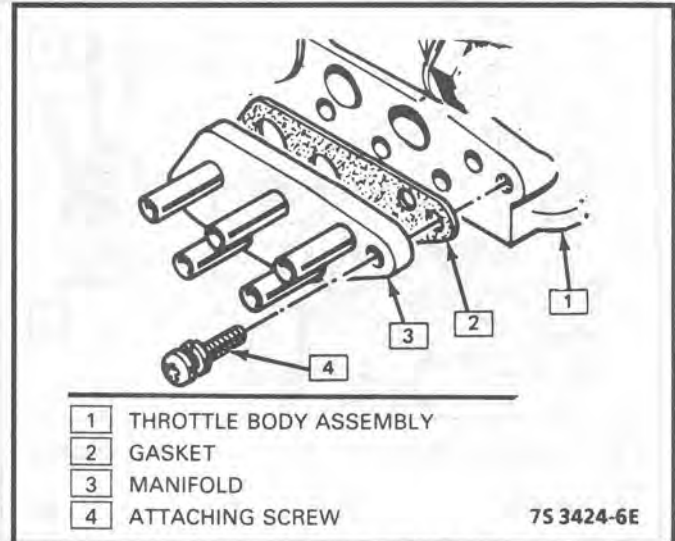

Figure C2-17 - Tube Module Assembly
**TUBE MODULE ASSEMBLY Replacement (Figure C2-17)**